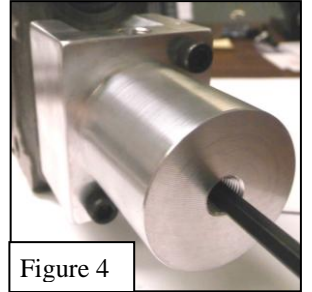

Figure 4
4. Test for proper alignment by turning Valve Spool using a 3/16" hex wrench as shown in Figure 4. Valve Spool should rotate freely.